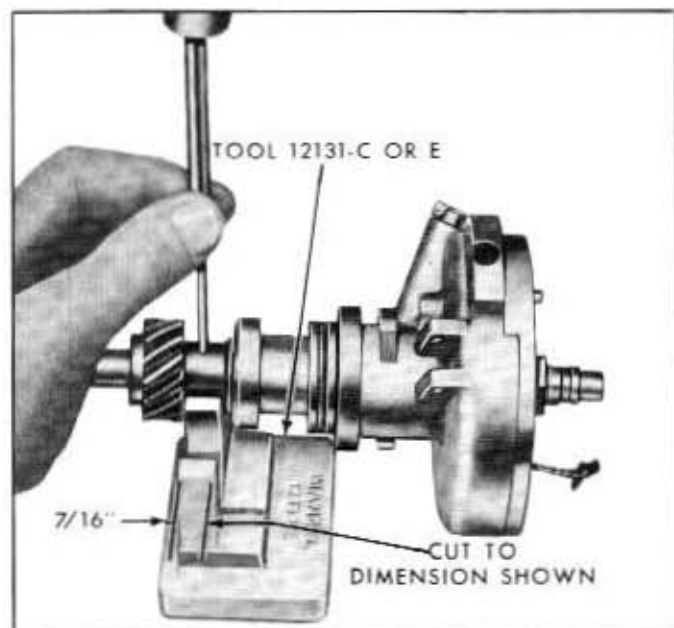

Fig. 9-60—Gear Pin Removal—(60C-7717)
8. Remove the distributor from the vise. Remove the distributor cap clamps. If a solid-type drive gear pin is used, file the peened end from the pin. Drive out the pin with a punch (figure 9-60).
13. Install the pin through the gear and shaft (figure 9-60). Peen the pin if the solid-type pin is used. Install the distributor cap clamps. Lubricate the cam with high temperature, non-fiber grease.